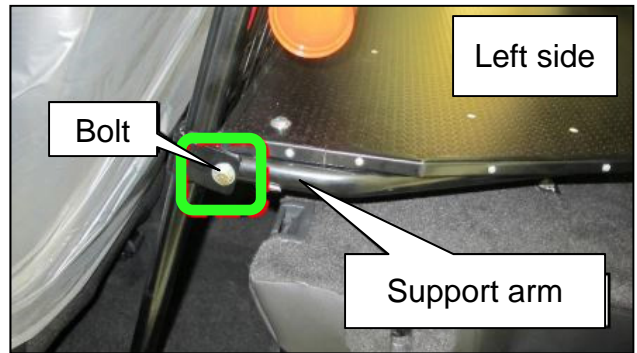
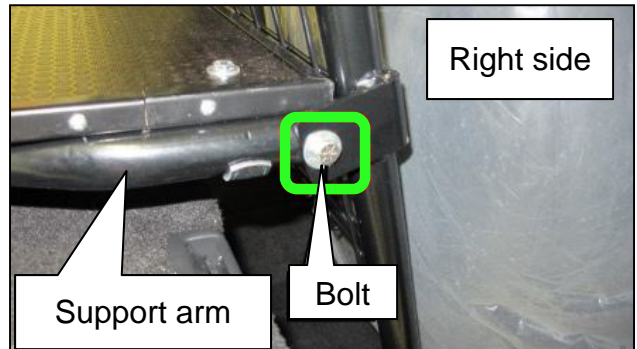

Figure 11
Figure 12
8. Remove the support arm to partition mount bolts/washers and nuts from both sides (Figure 11 and Figure 12).